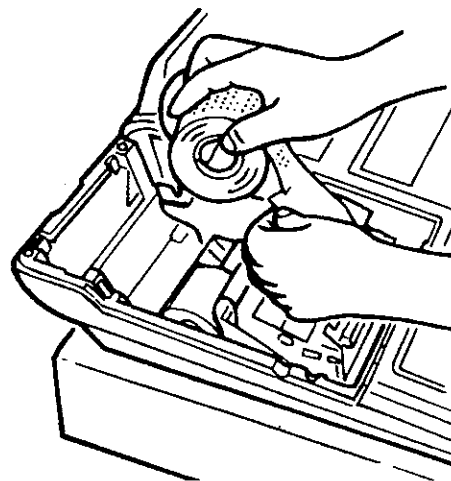

Fig.9
5. Cut the paper after the end of the printing (See Fig.9.).